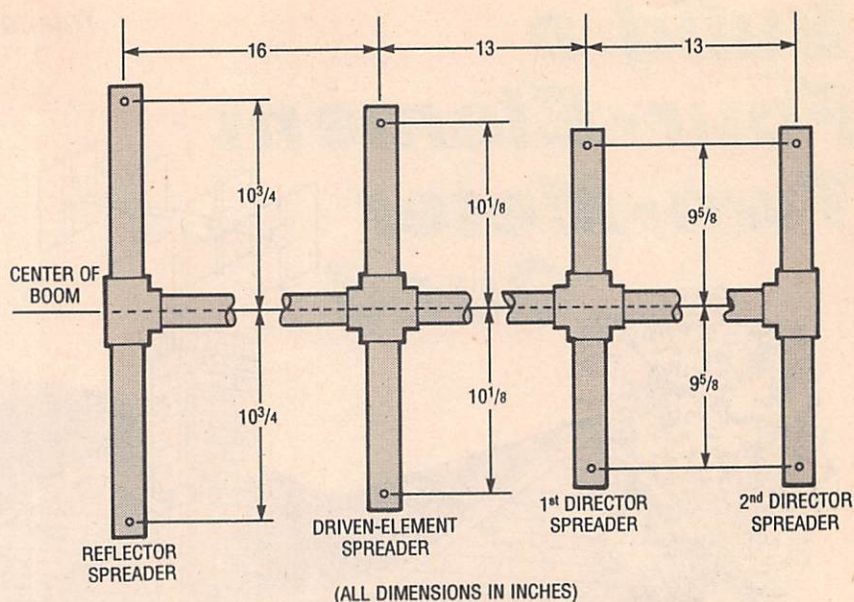

Fig. 1. This is the boom/spreader assembly for the quad antenna. Note that the locations of the holes are measured from the center of the boom.
**The Water Tap.** The amplifier circuit is shown in Fig. 1. It's based on a 2-watt TBA820M op-amp, but as you can see from the Parts List, there are a few other chips that are pin-for-pin compatible replacements for it. The circuit is powered from a 9-volt battery. Instead of making a PC board for the
Fig. 1. The amplifier circuit is based on a 2-watt audio op-amp, and powered from a 9-volt battery. Perfboard and point-to-point wiring was used to make the circuit.
**Building the Quad.** Construction began with two, 10-foot, 1/2-inch PVC pipes. From that stock, the boom was cut to 42 inches in length with allowances given for two PVC tees to be fitted at each end (see Fig. 1); one for the reflector and one for the first director. Those tees were not permanently installed at that time.